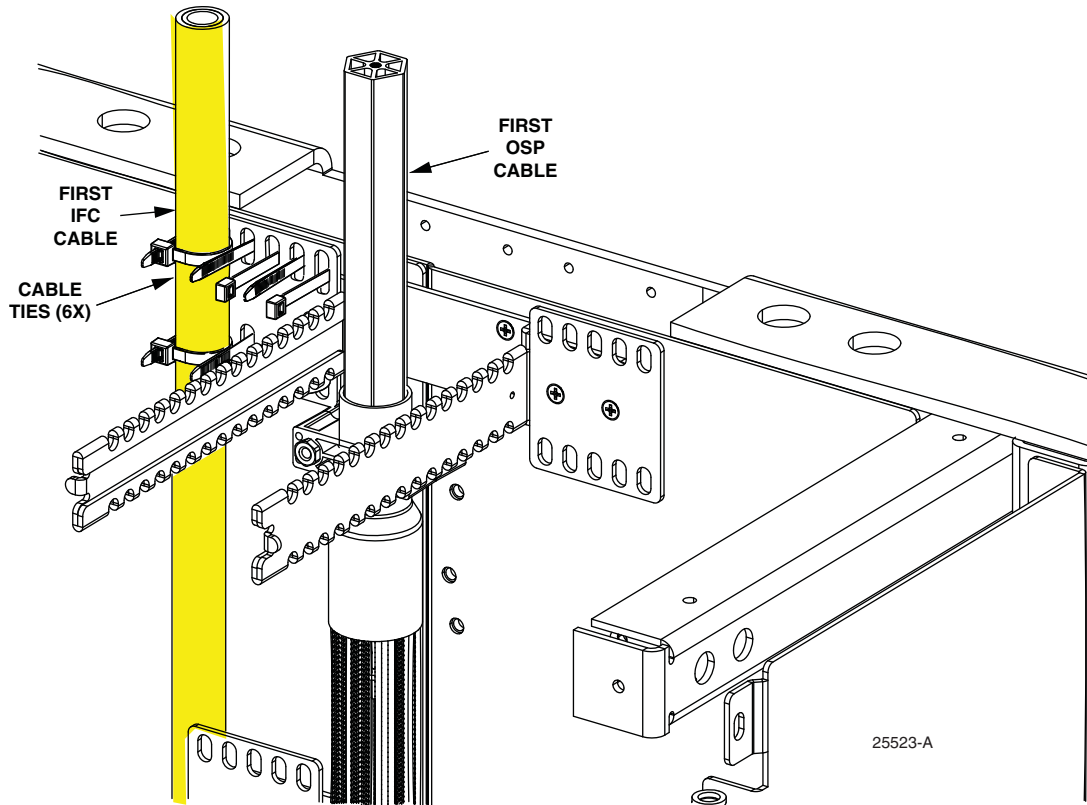

Figure 13. Installing IFC Cables
Note: It is recommended to install two cable ties for each cable (six in total) before installing the first IFC cable. Refer to Figure 13.
- b. Secure the cable with two cable ties as shown in Figure 13.